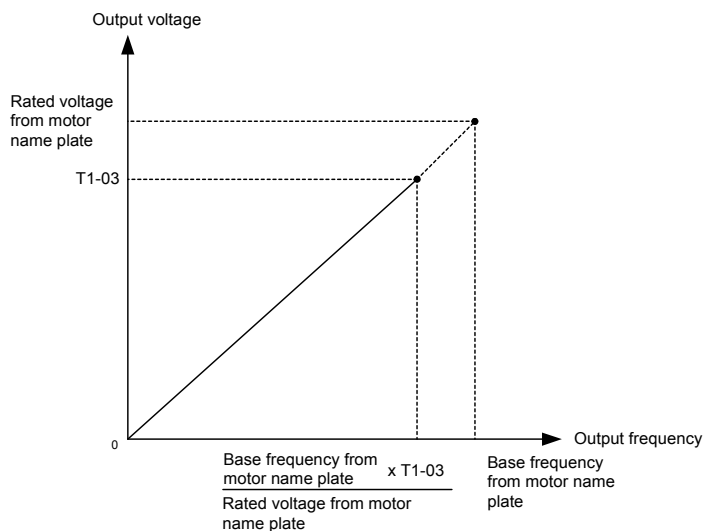

Fig 4.3 Motor Base Frequency and Inverter Input Voltage Setting
- If the motor rated voltage is higher than the power supply voltage, lower the base voltage value like shown in Fig 4.3 to prevent saturation of the Inverter's output voltage. Use the following procedure to perform autotuning.